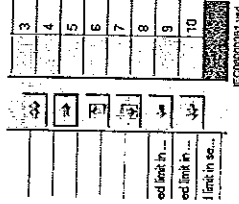

Figure 79: CMT: Move buttons
- Press the green double arrow button to insert all signals into the configuration, see Figure 79.